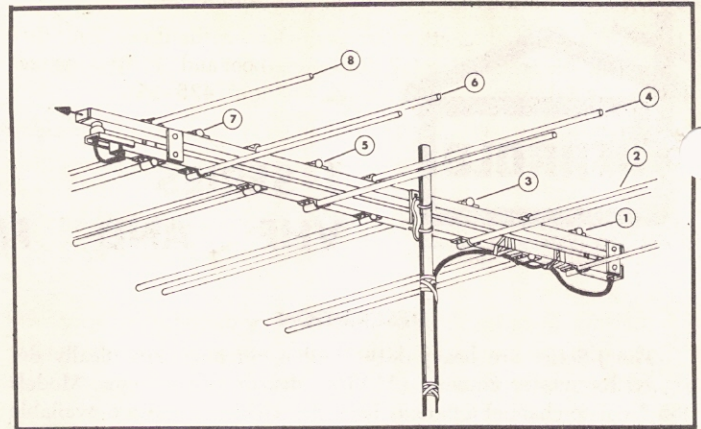
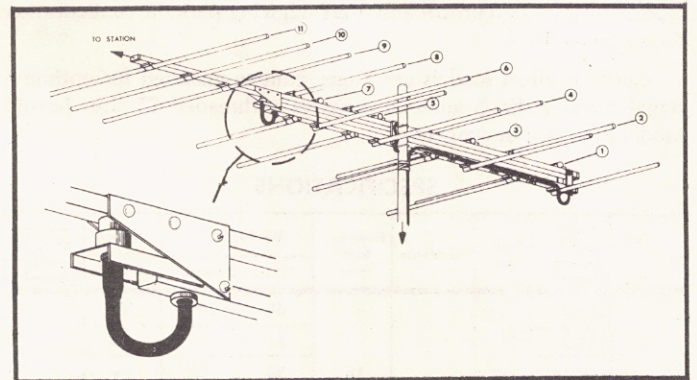
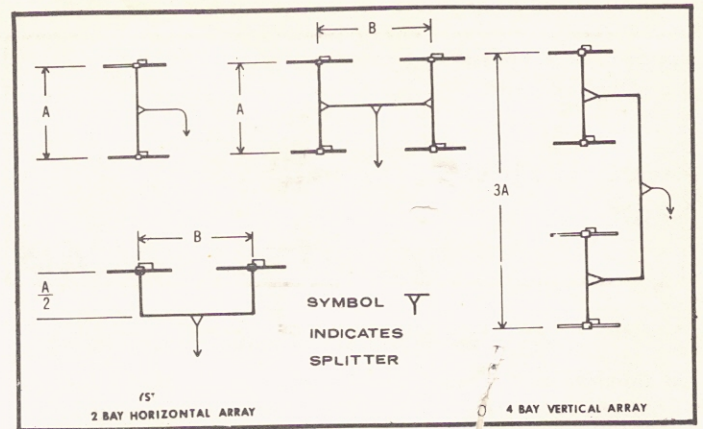

FIGURE 4 TYPICAL MOUNTING OF MODEL J55 - LO
FIGURE 5 TYPICAL MOUNTING OF MODEL J105 - HI
FIG. 7 ARRAY SPACING OF "J SERIES" CUT-TO-CHANNEL YAGIS
TABLE 3—BROADBAND MODEL ELEMENTS (See Figs. 4 and 5)
1. Consult Figures 4 and 5 and Table 3, then on Model J105-HI, swing the front of the crossarm into position and secure it to the main upper crossarm with the machine-screw, lock-washer and hex-nut supplied; wrench tighten both securing hex-nuts.
2. Assemble the elements onto the crossarms in their proper positions, as denoted by their length and element number. Note the relationship of the elements to the upper and lower crossarms; the elements must be positioned as shown in Figure 4 or 5. DO NOT over-tighten the hex-bolts securing the elements.
1. Cut the required length of coaxial cable for the down-lead, then insert one end into the rear grommet of the lower crossarm, feed the cable through the crossarm and out of the front grommet as shown in Figure 4 or 5.
J-Series antennas may be "stacked" both vertically and horizontally for greater gain and directivity. It is essential that the spacings given below in Figure 7 and Table 4 be strictly adhered to for best possible results.
The gamma feeds of all antennas within the array must face in the same direction for proper polarity. Note that the feeds shown in Figure 7 all face right as viewed from the front of the antennas. For broadband models, all antennas within an array must be assembled as shown in Figure 4 for lowband or Figure 5 for highband and all downleads must exit from the bottom of the crossarms, in order to maintain proper phasing and polarity.